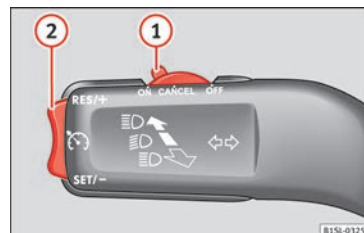

Fig. 34 Switch and controls for operating the CCS.
- Switching on the CCS: Move switch **»» Fig. 34 1** to **ON**. The system is on. If no speed has been programmed, the system will not control it.
- Activating the CCS: Press button **»» Fig. 34 2** in the **SET/-** area. The current speed is memorised and controlled.
- Temporarily switching off the CCS: Move switch **»» Fig. 34 1** to **CANCEL** or push the brake. The cruise control system is switched off temporarily.
- Reactivating the CCS: Press button **»» Fig. 34 ②** in **RES/+**. The memorised speed is saved and controlled again.
- Increasing stored speed during CCS regulation: press button **②** in **RES/+**. The vehicle accelerates until the new stored speed.
- Reducing stored speed during CCS regulation: press button **②** in **SET/-** to lower the speed by 1 km/h (1 mph). Speed is reduced until reaching the new stored speed.
- Switching off the CCS: Move switch **»» Fig. 34 ①** to **OFF**. The system is disconnected and the memorised speed is deleted.